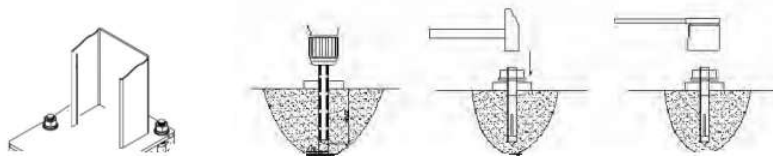

Figure 29
10. Adjust the column with the leveling bar and leveling pad, drill the anchor hole and install the anchor bolts. Tap the anchor bolts into the anchor hole with a hammer and tighten the bolts. (See Fig.29)